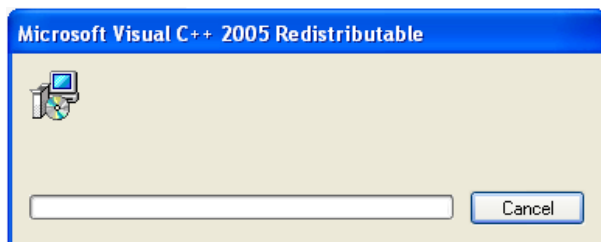

Figure 8. Install Microsoft Visual C++ 2005 Redistributable package
- b. You also need to install the Microsoft Visual C++ Redistributable Package "**vc redistrib.exe**", which is included in the installation package. Double click "vc redistrib\_x86.exe" and follow the instructions displayed during the installation, as shown in Figure 8. Users of Windows 7/8/10 do not need to install the Microsoft Visual C++ Redistributable Package, as it comes pre-installed as part of the OS.